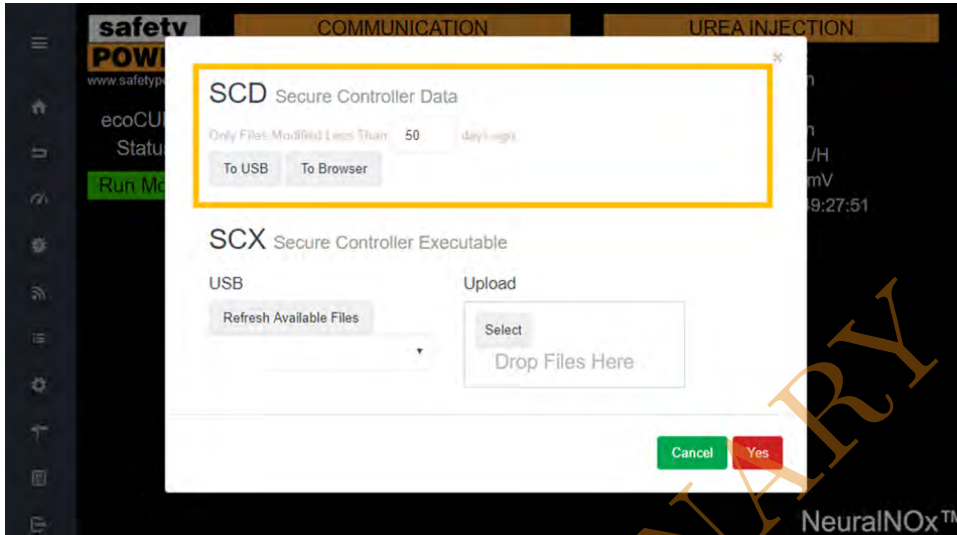

Figure 8.2: Use the outlined portion of the window to extract data files from the controller
3. On the pop-up window enter the amount of data (in number of days) to be extracted; the default value is 50 days (Figure 8.2)
4. Press the **To USB** button to initiate the data transfer (Figure 8.2)
4. Press the **To Browser** button to initiate the data download to the web browser's downloads folder (Figure 8.2)